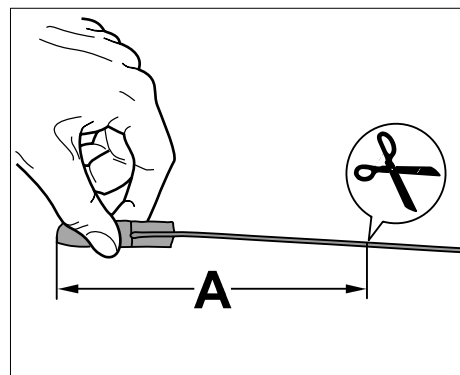

Figure 7
- 3.1 Mark the end piece of the tension rope at $\Rightarrow$ *Figure 7 -Distance A = 18 cm-* using a white marker and measuring tape. Then cut the tension rope at the marking using a scissors.